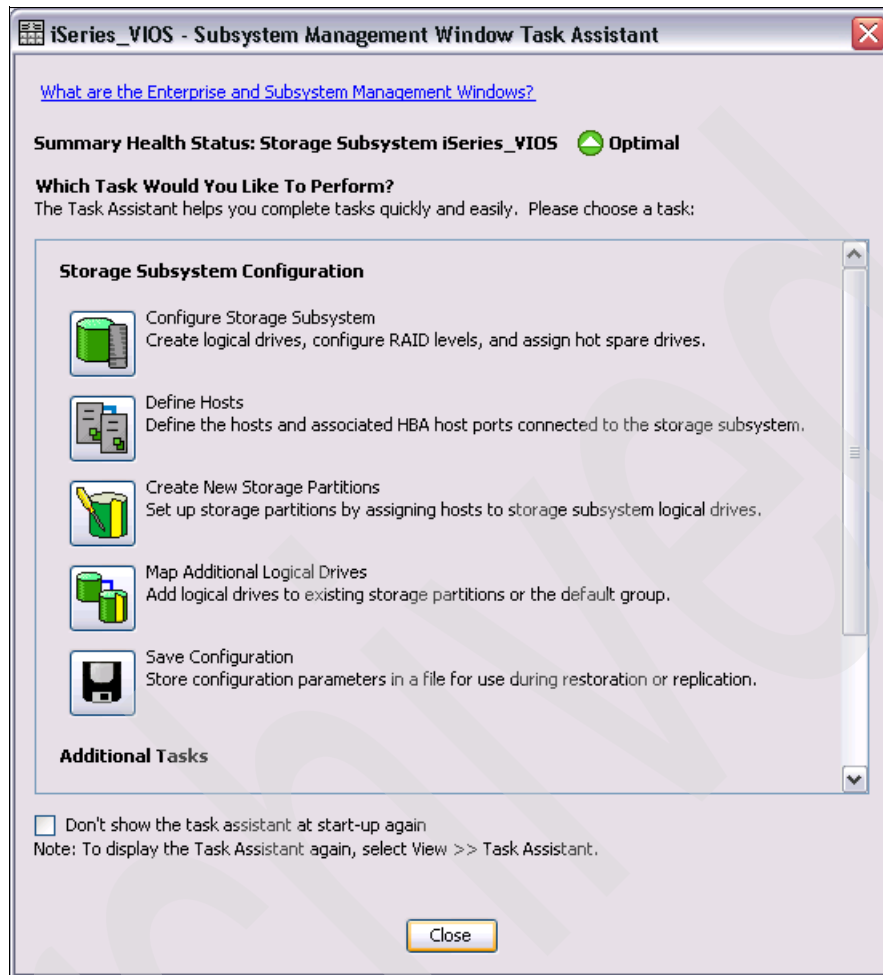

Figure 7-45 DS Storage Manager Task Assistant
2. We close the Subsystem Management Window Task Assistant by selecting **Close**, as shown in Figure 7-45.